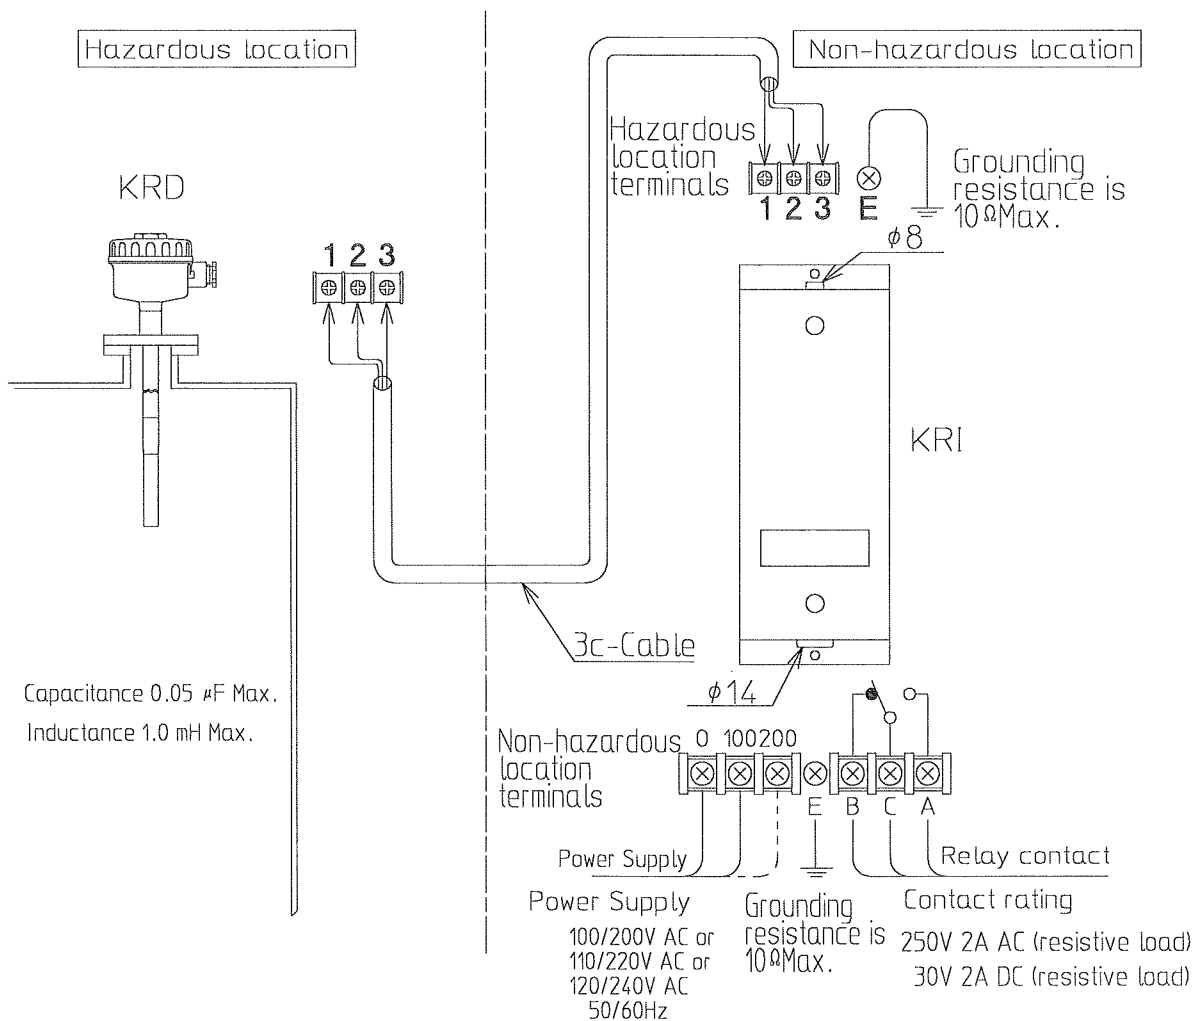

Fig. 2
5.3 If the wiring work is completed, perform wiring in accordance with Fig. 2.
- Improper output connections ..... Recheck wiring with reference to Fig. 2 connection diagram under chapter 5. WIRING.